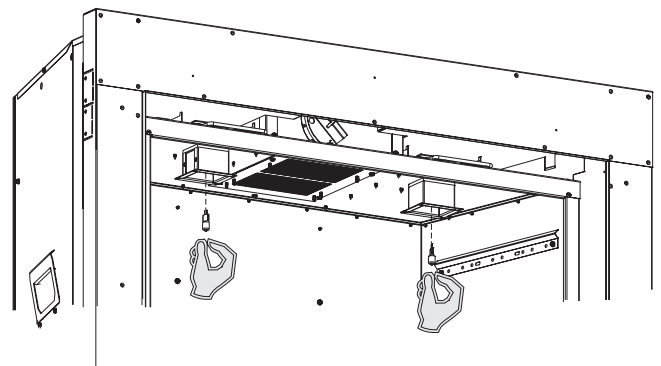

Figure 112
2. Remove old light bulb and replace with a new one. **See Figure 112.**